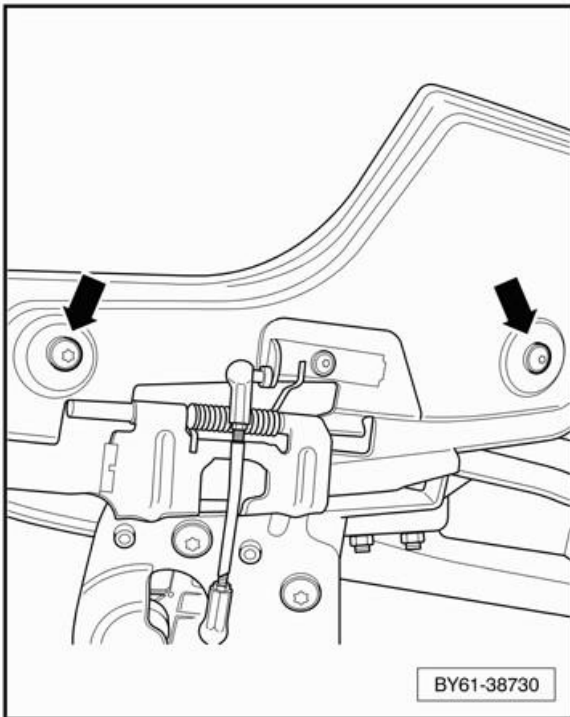

Figure 6
5. To improve access during the drilling operation remove the right hand linkage flap cover (see Figure 6). Reference workshop manual Rep.Gr.61 Linkage flap trimmed cover – To remove and fit